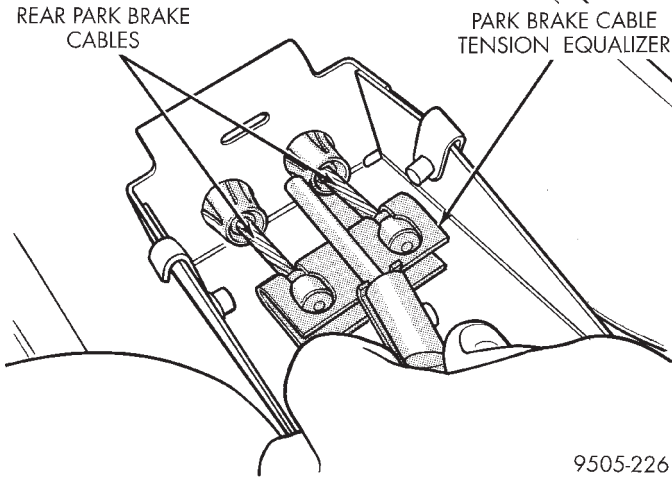
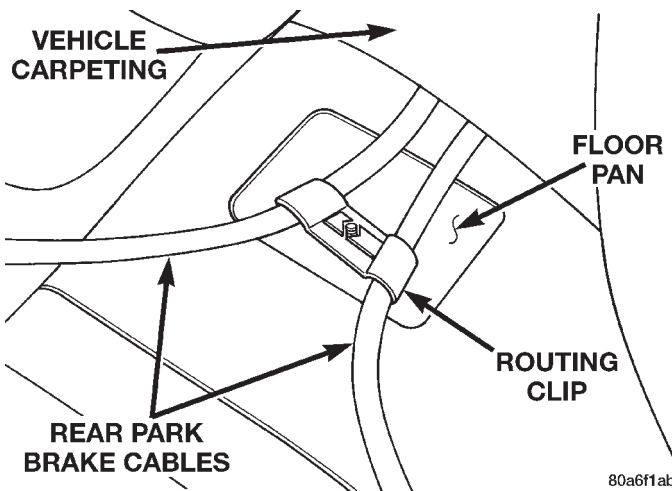

Fig. 151 Rear Park Brake Cables At Tension
Fig. 152 Park Brake Cable Attachment To Floor Pan housing and pull cable straight out of console bracket.
(9) Remove the rear park brake cable requiring service, from the park brake cable tension equalizer (Fig. 151).
(10) Remove rear seat cushion from vehicle.
(11) Remove scuff plates from right and left rear door sills. Scuff plates are attached to door sills using clips on bottom of scuff plates. Remove by carefully prying scuff plate retaining clips out of door sills.
(12) Fold rear carpeting forward to expose park brake cables.
(13) Remove the routing clip (Fig. 152) attaching the rear park brake cables to the floor pan of the vehicle.
(12) Install the routing bracket holding park brake cables to the floor pan of the vehicle (Fig. 152).